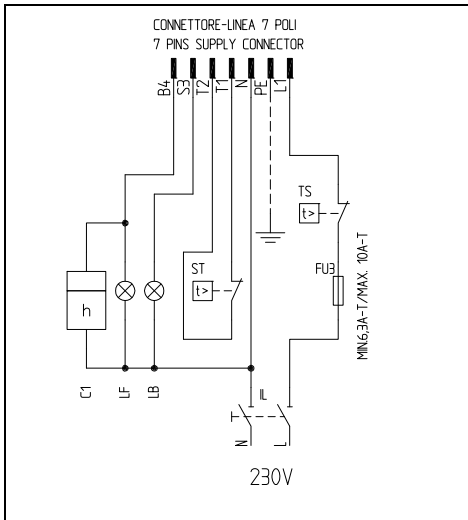
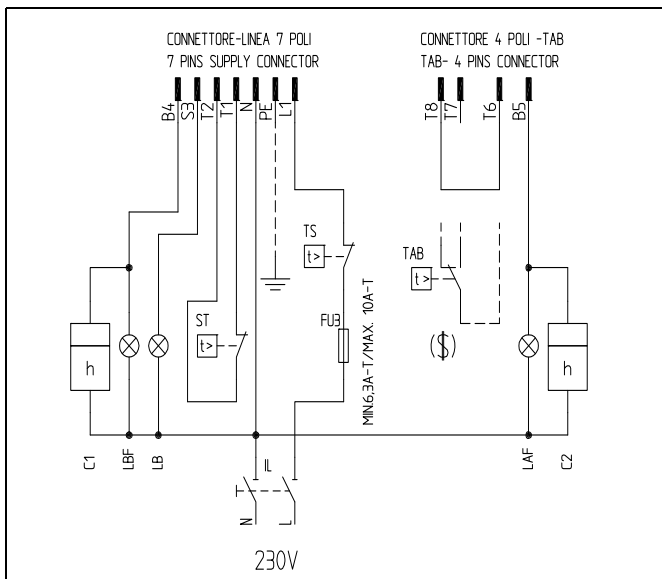
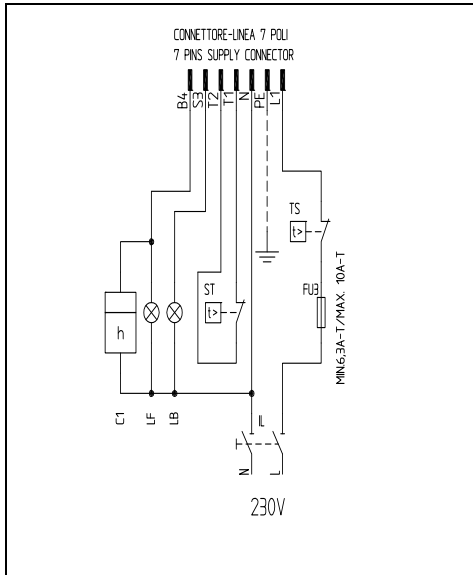
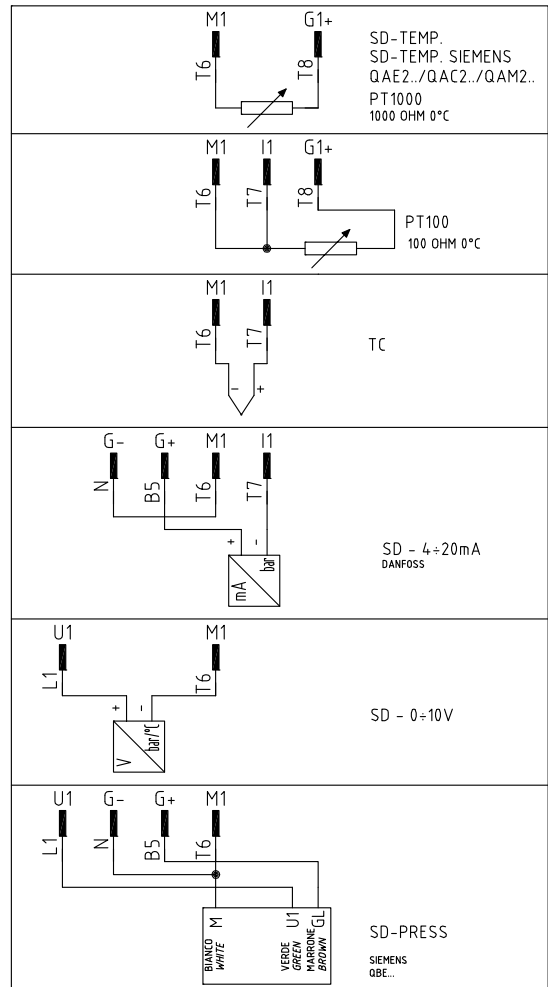

Fig. 34 - 7-pins connector
Fig. 36 - 7-pin and 4-pin connectors
Fig. 38 - 7-pin connector
Fig. 40 - Probes connection
<p>Burner power supply connector (Fig. 34 - Fig. 36 - Fig. 38)</p> <p>Probe connection connector (fully modulating burners, Fig. 40)</p>	 <p style="text-align: right;">Fig. 31</p>
<p>HIGH/LOW flame connector (progressive burners, Fig. 36)</p>	 <p style="text-align: right;">Fig. 32</p>
- 2 startup the burner by turning its main switch **A** to on: if the burner locks (LED **B** on in the control panel) press the RESET button (**C**) on the control panel (Fig. 36).